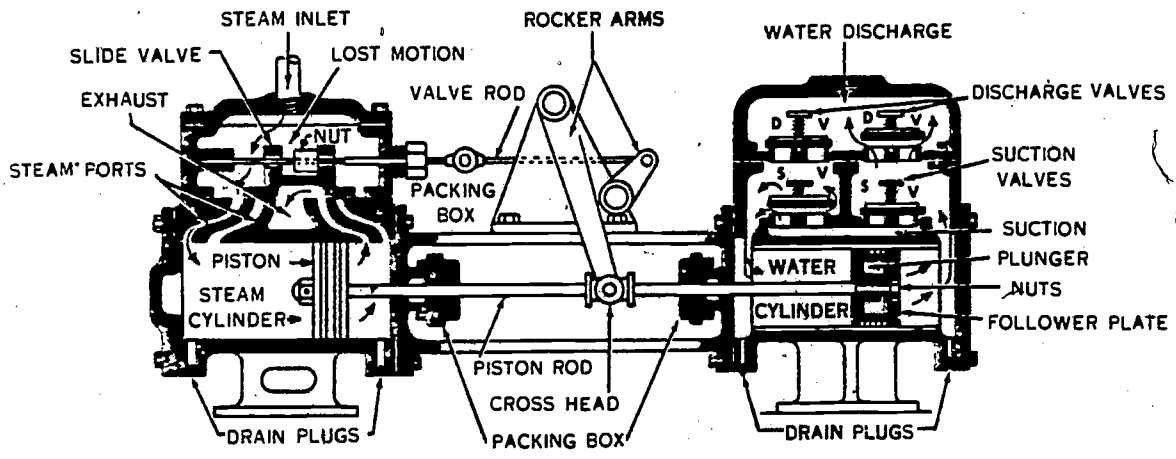

Figure 6. Cutaway view of a duplex steam reciprocating pump.
2. The steam sections of duplex pumps are normally controlled by slide valves mounted above the cylinders and operated by the piston rods through rocker arms and valve rods. The details of one side of such a pump are shown in figure 6. Each water cylinder has an intake valve and an outlet valve operated by the suction and pressure caused by the movement of the pistons.